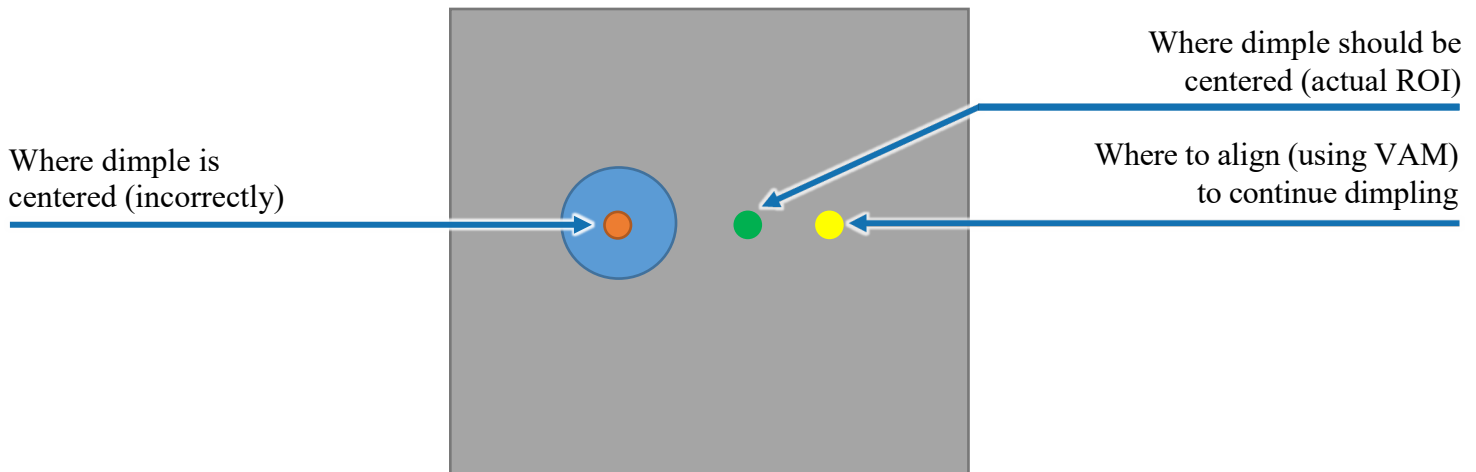

Figure 15: Illustrating How to Re-Align a Dimple that Missed the ROI
- a. Method 1. Dimple migration. Compensate for location error by overcorrecting in the direction of the true ROI, especially if you are already close to the target layer of the ROI. A good rule of thumb is to go past the ROI (away from the center of the incorrect dimple) at least 50% of the distance between the ROI and center of the dimple. See example below in **Figure 15**: